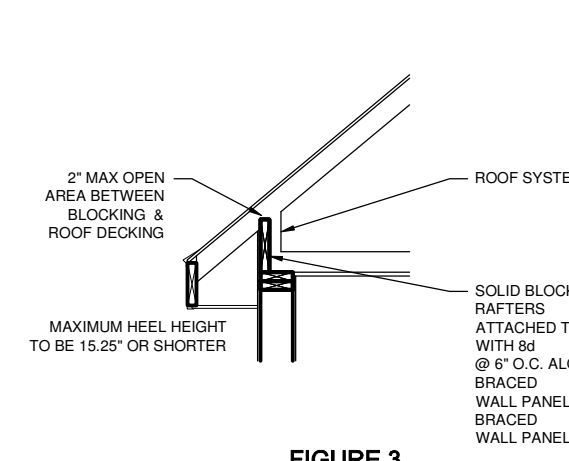

FIGURE 3
- (PERPENDICULAR WALL/ROOF) APPLY 2X SOLID BLOCKING BETWEEN ROOF SYSTEM MEMBERS OVER BRACED WALL PANELS W/ 8d NAILS AT 6" O.C. ALONG LENGTH OF BRACED WALL PANELS WHEN HEEL IS 15.25" OR LESS (FIGURE 3, REFER TO FIG. #4 WHEN OVER 15.25").